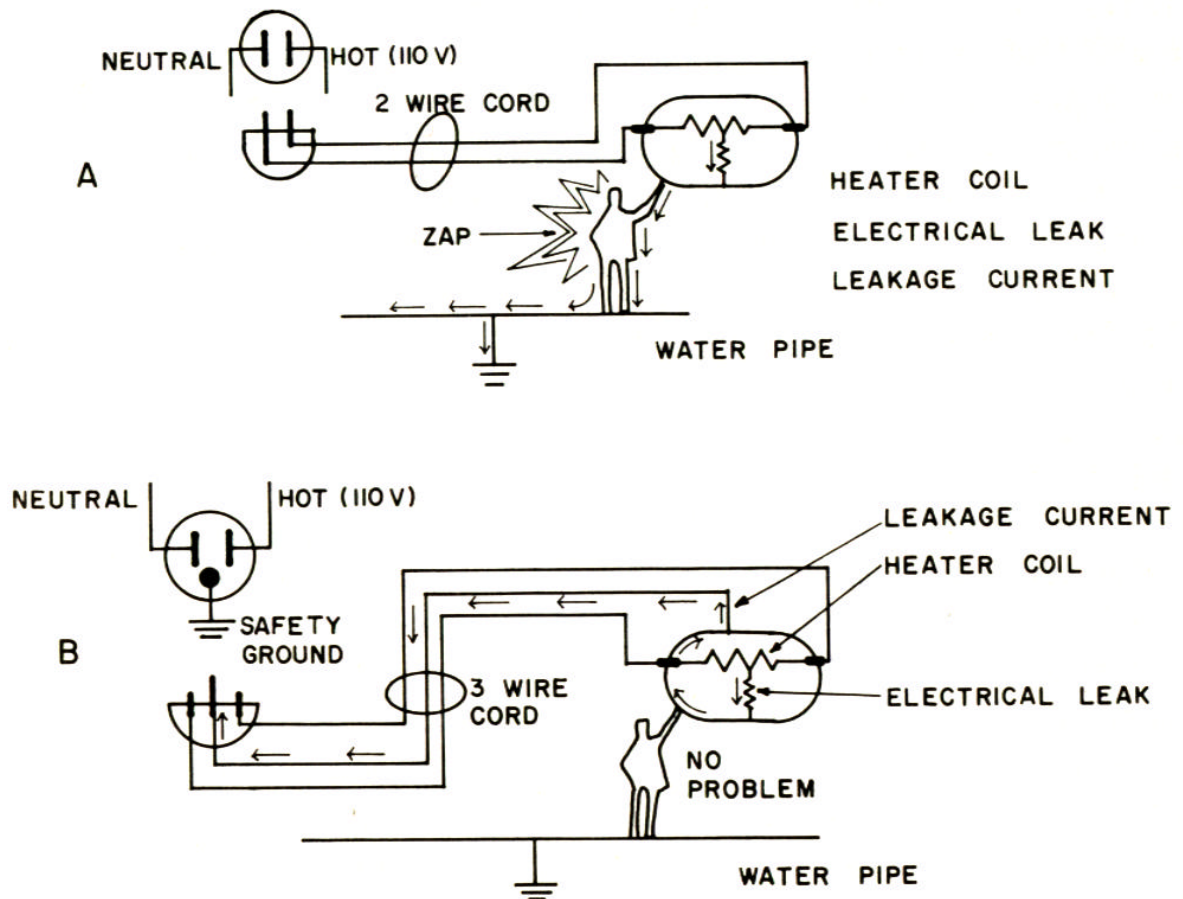

Figure 1-3 Conventional power systems. A. Two-wire system. B. Three-wire system with safety ground.
To appreciate the advantages of the three-wire or grounded system and the dangers of the two-wire system, we show Figure 1-3 where both systems are used with a "defective" appliance. Make sure you understand why in one case (A) the little figure is "shocked." In the other drawing (B) the ground wire carries off the leaking electricity so that it does not go through the person in the circuit.